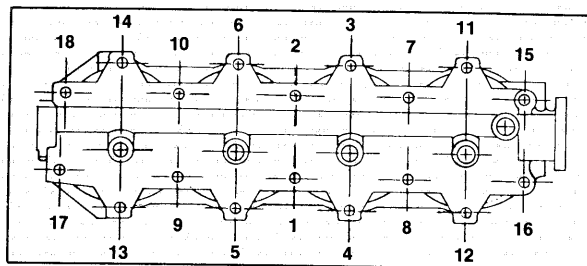

Figure 1—Torquing Sequence
- B. Follow torquing sequence as shown in figure 1.